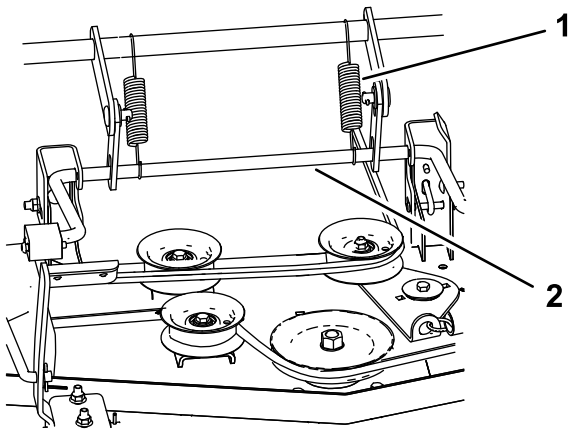

**Figure 71**
7. Lift the mower deck and hanger brackets clear of the rear lift rod and lower the mower carefully to the ground (Figure 71).
5. Lift the rear of the mower deck and guide the hanger brackets over the rear lift rod (Figure 71).